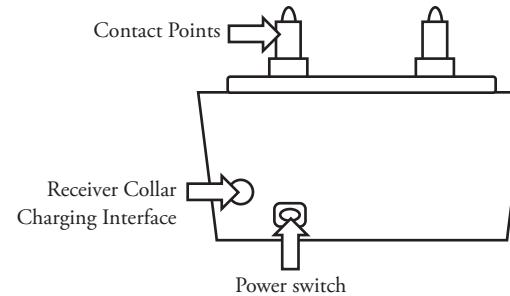

figure 2 – Receiver Collar Power Switch and Charging Interface
1. Press the Power Switch (*figure 2*) for three seconds to turn on the Receiver Collar (the red light will go solid)